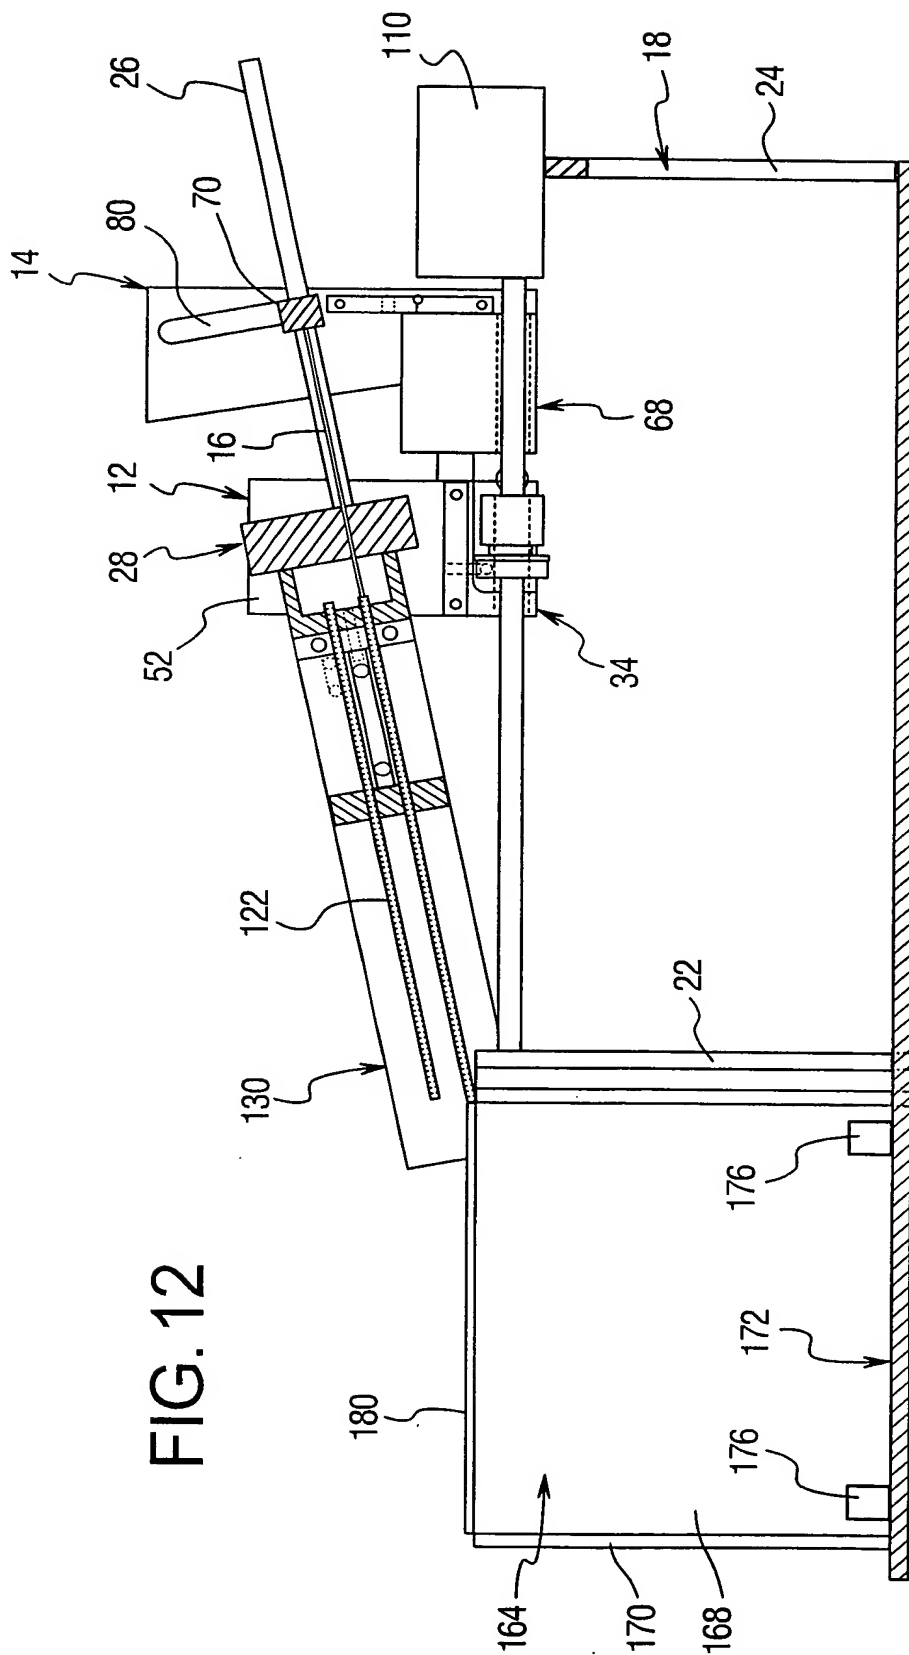

FIG. 13
FIG. 13 is a schematic diagram of a mechanical assembly, likely a textile machine, showing a central frame with multiple vertical rods (16) and horizontal rods (26). The assembly includes a motor (110) at the top, a drive shaft (108), and various components labeled with reference numerals: 10, 12, 14, 18, 28, 34, 36, 42, 44, 50, 62, 70, 94, 104, 130, and 18. The diagram illustrates the mechanical structure and components of the assembly.